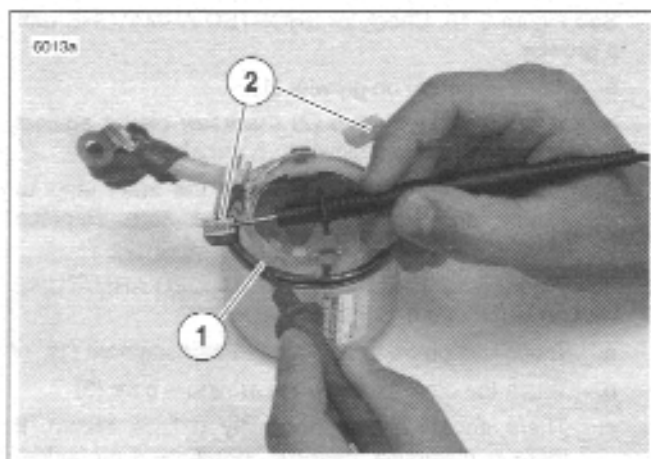
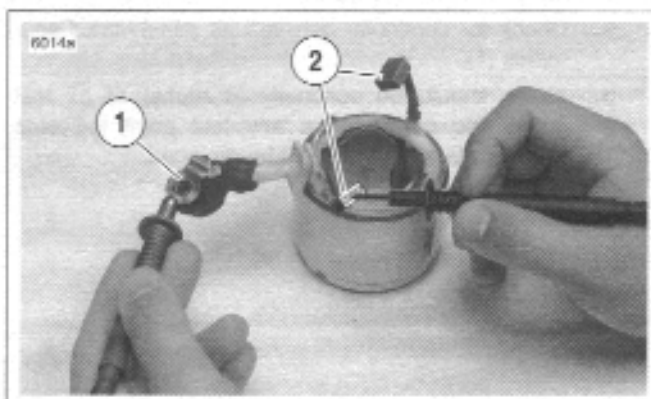
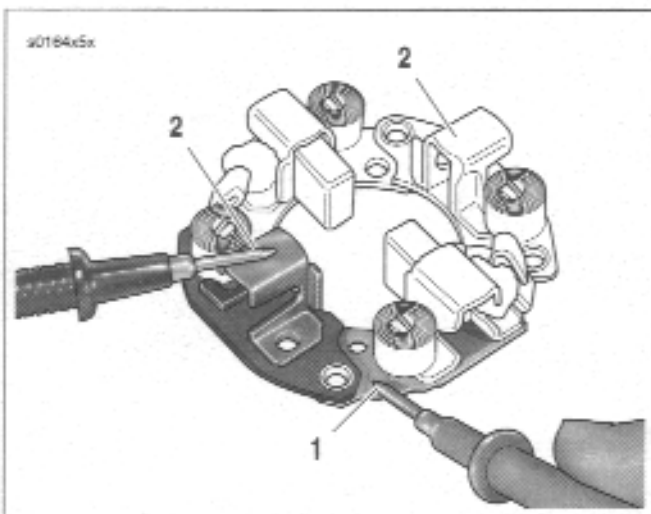
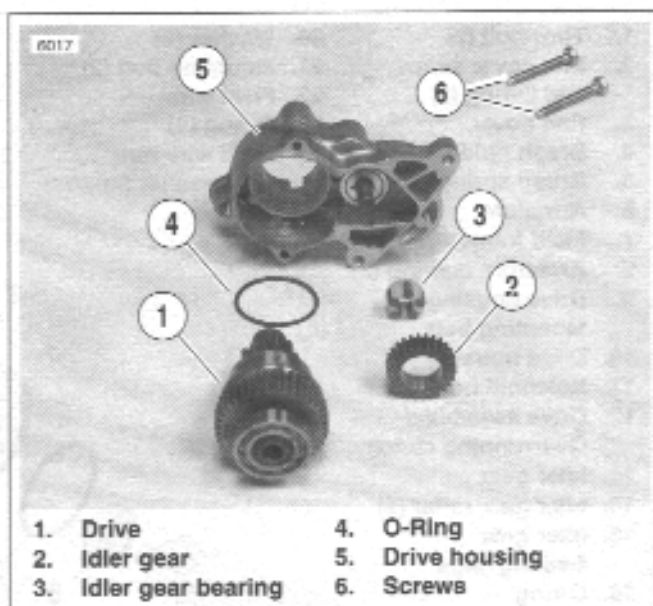

Figure 5-21. Grounded Field Test
Figure 5-22. Open Field Test
Figure 5-23. Brush Holder Insulation Test
Figure 5-24. Starter Drive Assembly
12. See Figure 5-21. Check for GROUND FIELD COIL with an ohmmeter or continuity tester.
- a. Touch one probe to the frame (1).
- b. Touch the other probe to each of the brushes (2) attached to the field coil.
13. See Figure 5-22. Check for OPEN FIELD COILS with an ohmmeter or continuity tester.
- a. Touch one probe to the field wire (1).
- b. Touch the other probe to each of the brushes attached to the field coil(s) (2).
14. See Figure 5-23. Test BRUSH HOLDER INSULATION with an ohmmeter or continuity tester.
- a. Touch one probe to holder plate (1).
- b. Touch the other probe to each of the positive (insulated) brush holders (2).
15. See Figure 5-24. Remove two drive housing mounting screws (6). Remove drive housing (5) from solenoid housing.
16. Remove drive (1), idler gear (2), idler gear bearing (3), and O-ring (4) from drive housing (O-ring is located in drive housing groove).
1. See Figure 5-24. Clean, inspect and lubricate drive assembly components. Lubricate parts with high temperature grease, such as LUBRIPLATE 110.